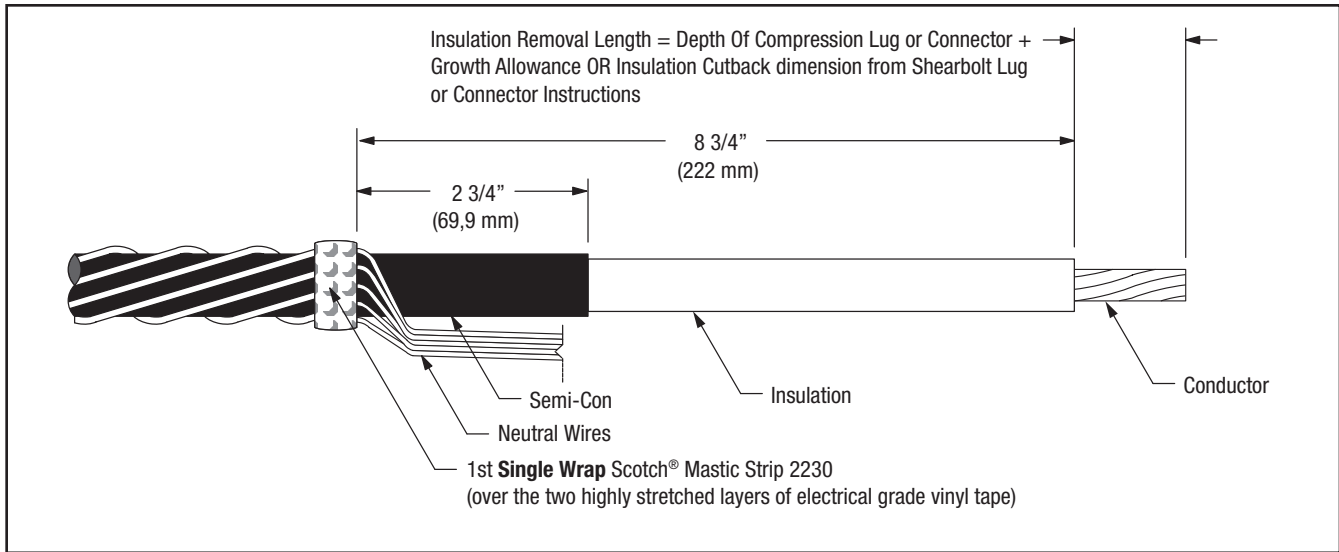

Figure 9
- 6.3 Prepare cable using dimensions shown in Figure 9. **BE SURE TO ALLOW FOR DEPTH OF TERMINAL CONNECTOR OR LUG.** If using 3M Shearbolt Lugs QL2 Series: Two Hole, or 3M Mechanical Shearbolt Connector QCI Series, proceed to Step 6.4. If using a Crimp Type (Compression) lug, measure the depth of the barrel, or if using a Crimp Type (Compression) connector, measure to the barrel center stop/midpoint, and see the NOTE below, in order to calculate the Insulation Removal Length. Table 8 can be used to assist in calculating the total Jacket Removal Length when using a compression lug or connector.
- 6.5 Secure neutral wires to cable with several highly stretched layers of electrical grade vinyl tape around the cable and neutral wires 2 3/4" (69,9 mm) from cut edge of cable semi-con (Figure 9).
- 6.6 Select a Scotch® Mastic Strip 2230 from kit and remove white release liners. Using light tension, wrap a **SINGLE WRAP** of mastic around the cable and neutral wires 2 3/4" (69,9 mm) from cut edge of cable semi-con, directly on top of vinyl tape (Figure 9). Cut off excess.